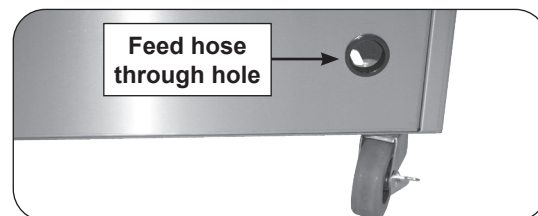

Fig. 3-3 Feed hose into grill cabinet
3. Insert the hose end through the hole at the lower rear corner of the grill cabinet (see Fig. 3-3). Ensure the black grommet is in place to prevent damage to the hose.